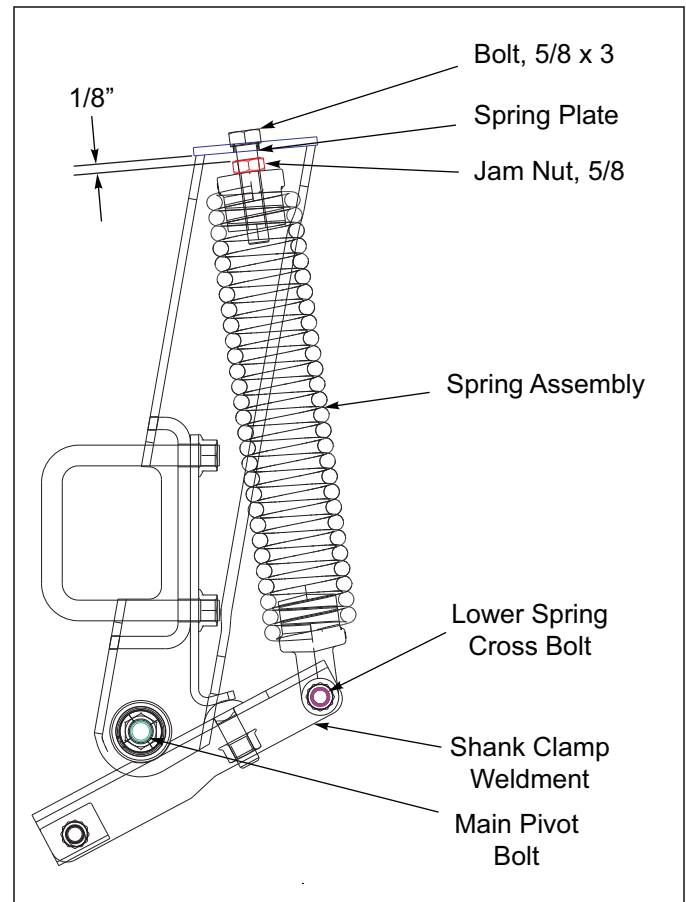

Figure 4-9: Spring Adjustment
3. When adjusting/assembling the spring assembly, tighten the upper spring bolt, but leave approximately 1/8" gap above the spring jam nut **See Figure 4-9**. This will leave the proper clearance for the spring to pivot. Lock the jam nut against the top of the spring, not the top of the mount. Likewise do not over tighten the lower spring cross bolt. Remove any slack in the bolt, but still allow the lower spring to pivot freely.